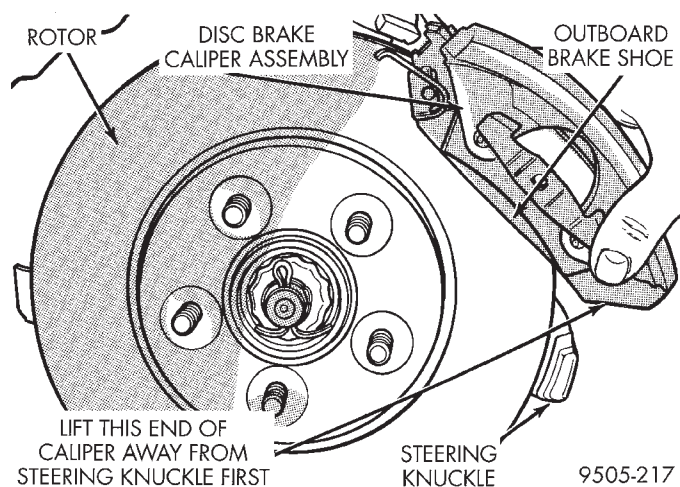

Fig. 82 Removing / Installing Brake Caliper
- (4) Remove brake caliper from steering knuckle, by first rotating bottom end of caliper away from steering knuckle. Then slide top of caliper down from the machined abutment on steering knuckle (Fig. 82).
(3) Carefully position caliper and brake shoe assemblies over brake rotor by first hooking top of brake shoes on the machined abutment on upper steering knuckle (Fig. 82). Then rotate the bottom of the brake caliper into position on the steering knuckle. **Make sure that caliper guide pin bolts, bushings and sleeves are clear of the steering knuckle bosses.**